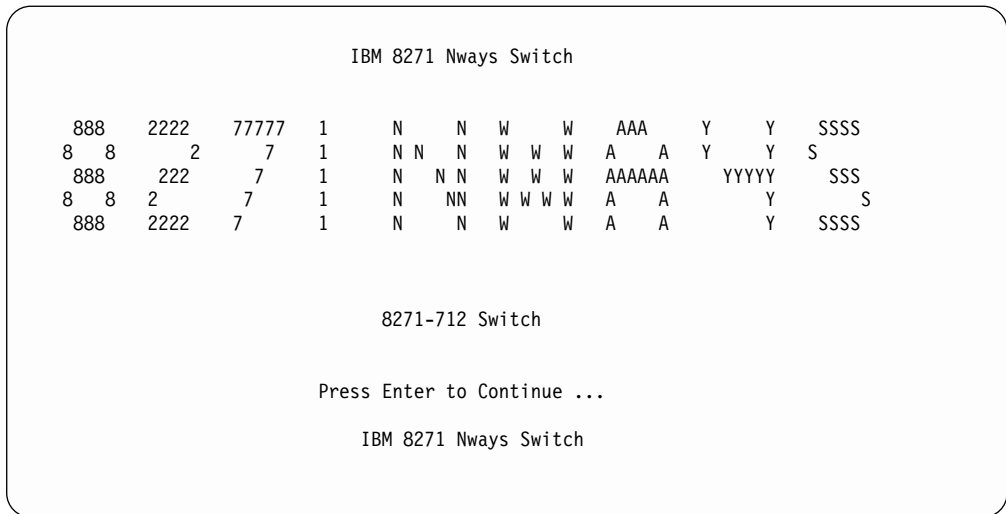

Figure 149. LAN Switch Screen
- Model Type (712) on front panel of LAN
- At **3590 AXX LAN HUB Setup** when **ENTER** is pressed TWICE Figure 149 on page 406 will be displayed.
- Follow the Figure 149 on page 406 screen sequence through the LOGOFF step to complete the Procedure for the Model 712 Ethernet LAN.
- If you do not have an F12 continue at Figure 149 on page 406.
- Type a **q** when completed with ALL PORTS and Figure 149 on page 406 will be displayed.